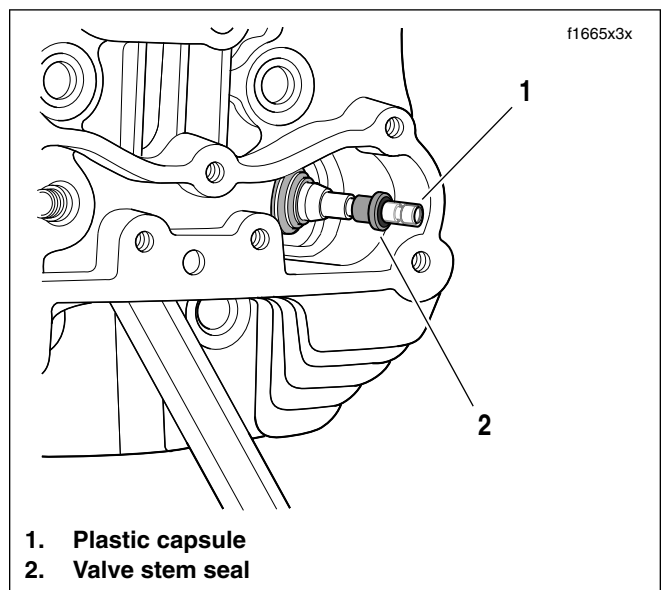

Figure 3-28. Install Valve Stem Seal
12. See Figure 3-28. Apply a very thin film of clean H-D 20W50 engine oil to capsule. Slide **new** valve stem seal over capsule and down valve stem until contact is made with top of valve guide. Remove capsule from valve stem tip.